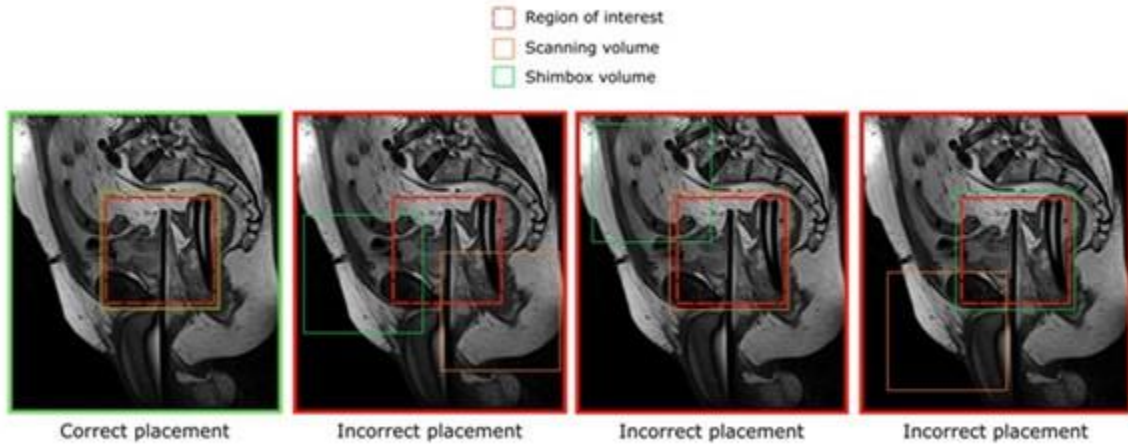

Figure 36: Examples of correct and incorrect placements of the shim box
1. MRI Technologist: Open AX THERM for editing in the Offc/Ang tab, change the AP, RL, and FH values for both Stack Offc. and Ang (*Figure 37*). to match those in TDC. Do the same for the shim volume. If the shim volume includes more than just the patient anatomy (e.g. air), reduce the size of the shim box (*Figure 36*).